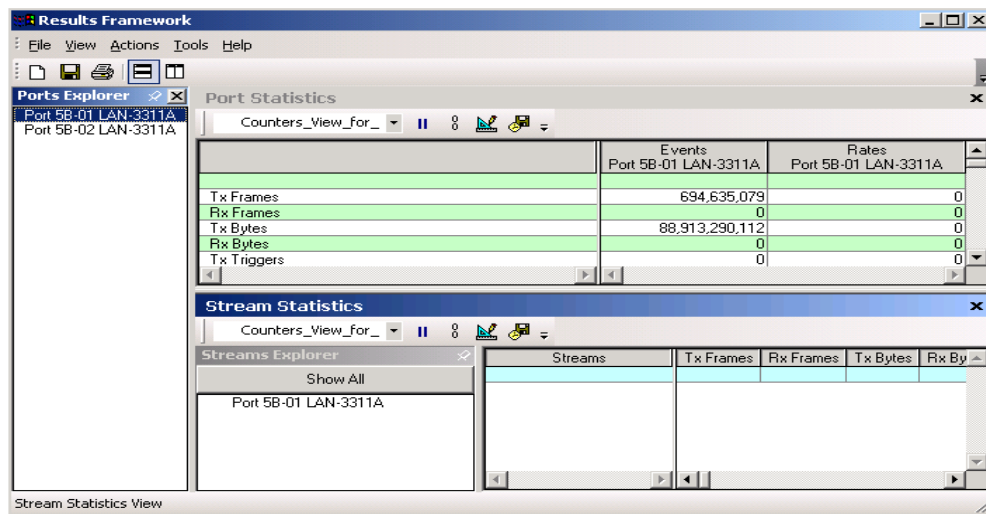

Figure 7-33. SmartCounter Windows
- 2 Locate the menu bar in the *Results Framework* window. Select **Actions** to see *Tx Start* and *Tx Stop*. (See Figure 7-33 for an illustration of the *Results Framework*, *Port Statistics*, and *Stream Statistics* windows.)